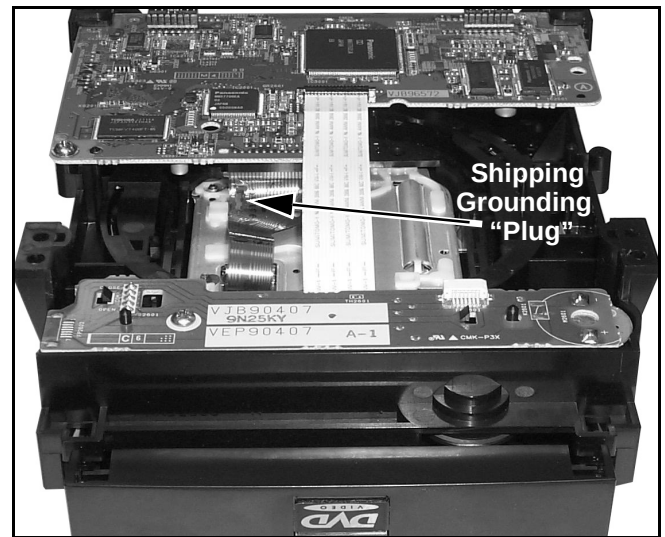
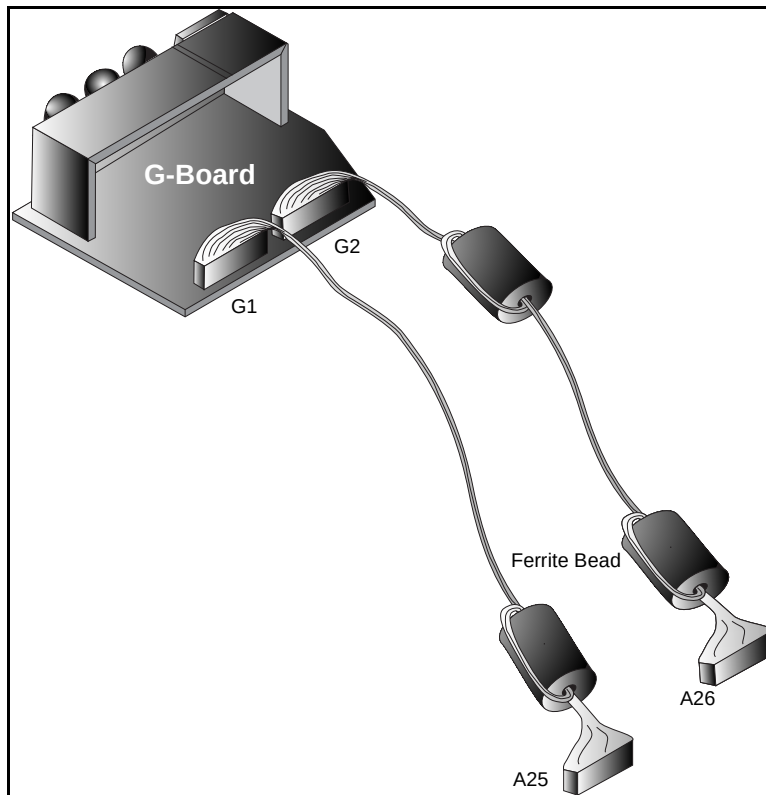

Figure 13. DVD Unit Shipping Grounding "Plug" Removal
Figure 16. G-Board Cables & Ferrite Beads Assembly
**Note:** *Verify that the ferrite beads are installed on the cables connecting to the DVD unit. See Fig. 12, Fig. 13 & Fig. 16 (page 16).*
Verify that when the cables leading from the A-Board to the G-Board are replaced, the ferrite beads are installed. See Fig. 16.